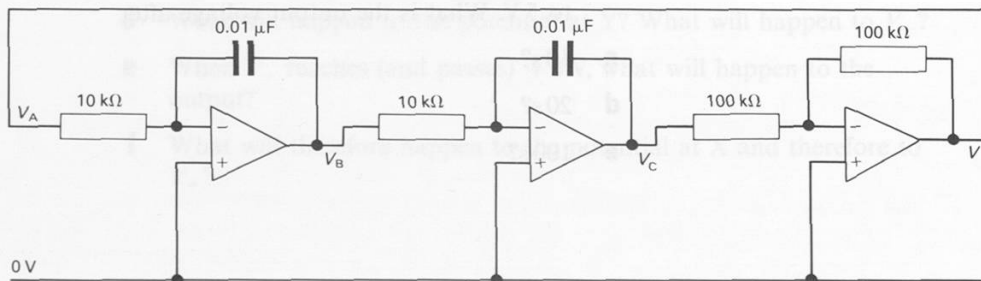

Figure I84
- a** What differential equation is represented by the circuit of figure I84?